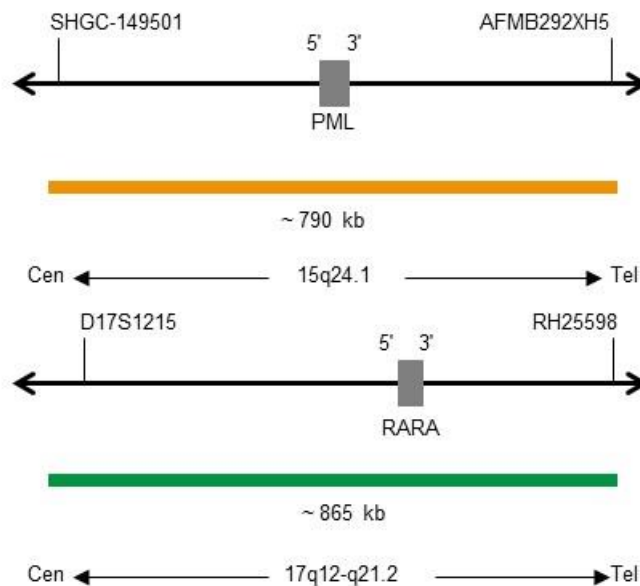

Fig. 1: Top: SPEC PML Probe map; Bottom: SPEC RARA Probe map (not to scale)
- ZyGreen (excitation 503 nm/emission 528 nm) labeled polynucleotides (~12 ng/μl), which target sequences mapping in 17q12-q21.2* (chr17:37,953,503-38,818,030) (see Fig. 1).
- ZyOrange (excitation 547 nm/emission 572 nm) labeled polynucleotides (~6 ng/μl), which target sequences mapping in 15q24.1* (chr15:73,910,690-74,699,298) (see Fig. 1).